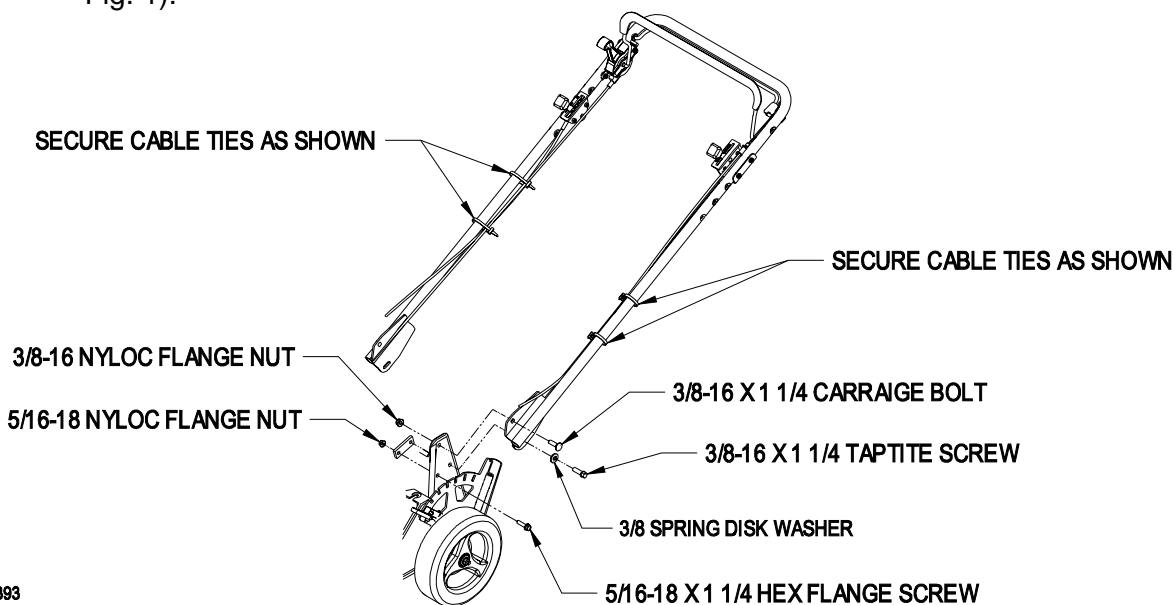

FIGURE 1
1. Mount the handle to the outside of the lawn mower housing on each side as shown (Fig. 1).
2. Move cable ties on each side of the handle bar into the locations shown and tighten (Fig. 1).